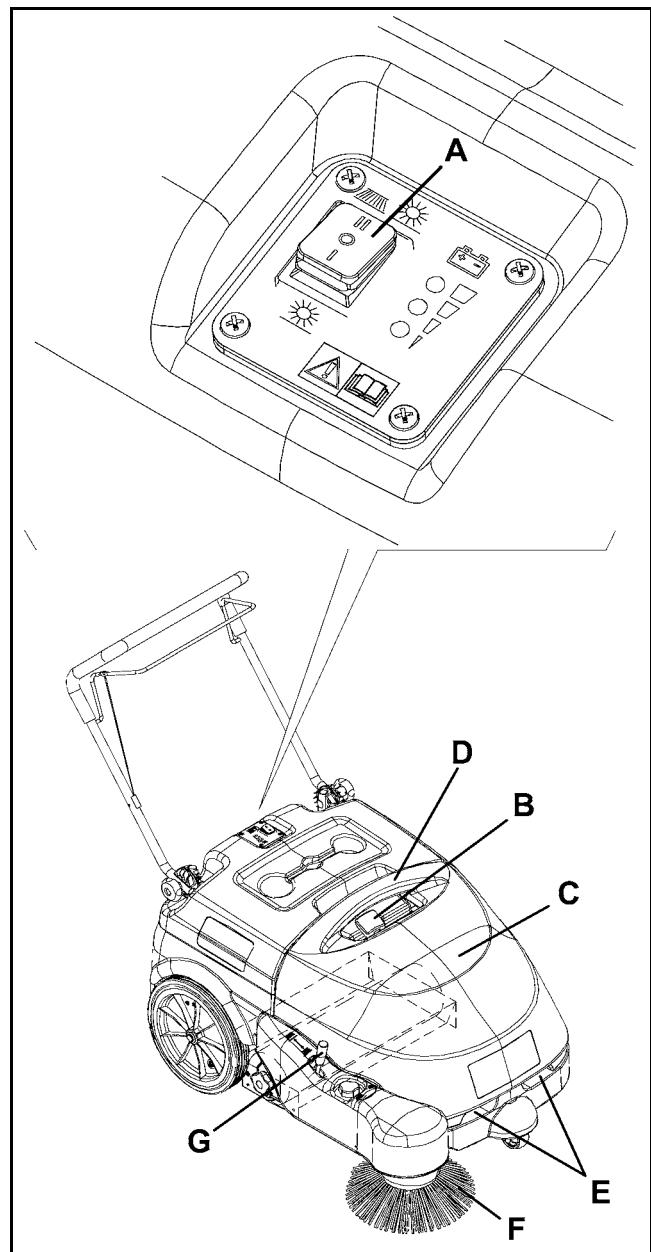

Figure 4
- Stop the machine and turn the main switch (A, Fig. 4) to “0”.
- To shake the filter, move the filter shaker knob (B) to the right and then to the left several times.
- Turn the main switch (A) to “I” and start sweeping again.
3. The hopper (C, Fig. 4) should be emptied after each working cycle and whenever it is full.
1. Stop the machine and turn the main switch (A, Fig. 4) to “0”.
2. Remove the hopper (C) by using the handles (D) and (E), then empty it at the waste collection centre.
3. Install the hopper (C).
1. Turn the main switch (A, Fig. 4) to “0”.
2. Turn on the filter shaker with the knob (B).
3. Empty the hopper (C) (see the procedure in the previous paragraph).
4. Lift the side broom (F, Fig. 4) by pulling the lever (G) backwards and by engaging it to the fastener.